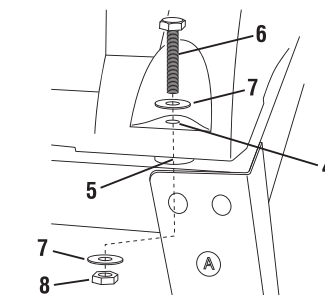

FIG. 31
- Place the table saw onto the assembled leg stand so that the four (4) mounting holes 4 in the base of the saw are over the four (4) mounting holes in the front and rear top plates 5 (Fig. 31).
- Secure the table saw to the leg stand using four (4) bolts 6, washers 7, and lock nuts 8.